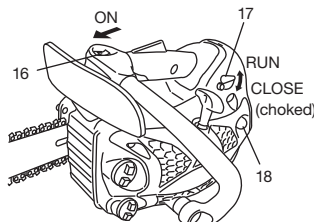

Fig. 10
Starting (Fig. 10, 11)
1. Set ignition switch (16) to ON position.
*Push priming bulb (18) several times so that fuel flows through bulb into carburetor. (If so equipped) (Fig. 10)
2. Push the choke lever (17) down to choked position. This will automatically lock the throttle in starting position. (Fig. 10)
3. Pull recoil starter briskly, taking care to keep the handle in your grasp and not allowing it to snap back. (Fig. 10)
4. When you hear the engine want to start, with the safety trigger (19) pressed pull throttle trigger (20). This will release the throttle from starting position to run position and will automatically return the choke lever to run position. (Fig. 10, 11)